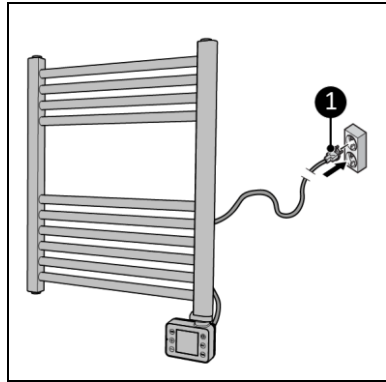

Figure 11
2. Place the power plug into a wall socket (Figure 11, pos. 1) that is easily accessible. Use a wall socket with a minimum power of 1000 Watt.